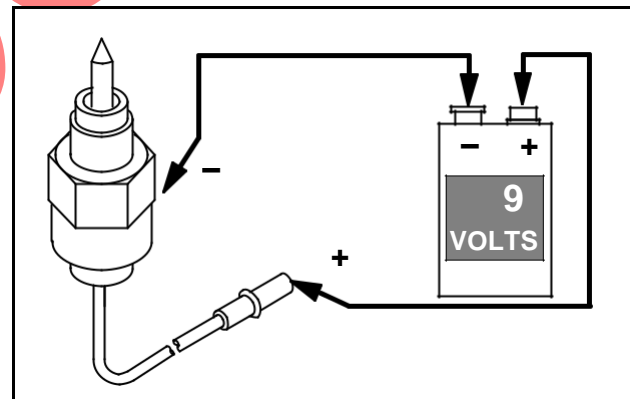

Fig. 61 – Test Solenoid
2. Place either terminal of a 9 volt transistor battery on the solenoid connector and other terminal on body of solenoid, Fig. 61.